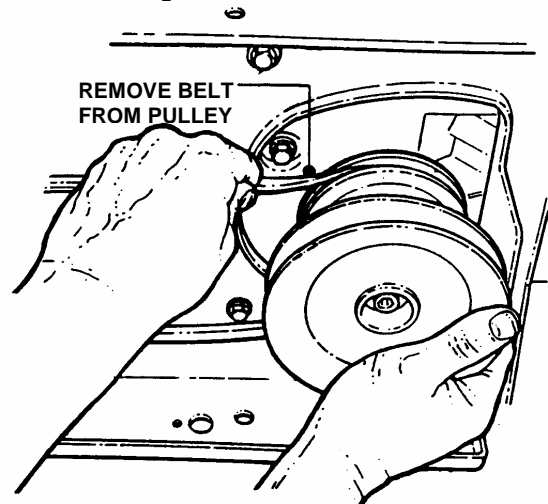

FIGURE 4.29
5. Remove traction drive belt from engine pulley top groove. See Figure 4.29.